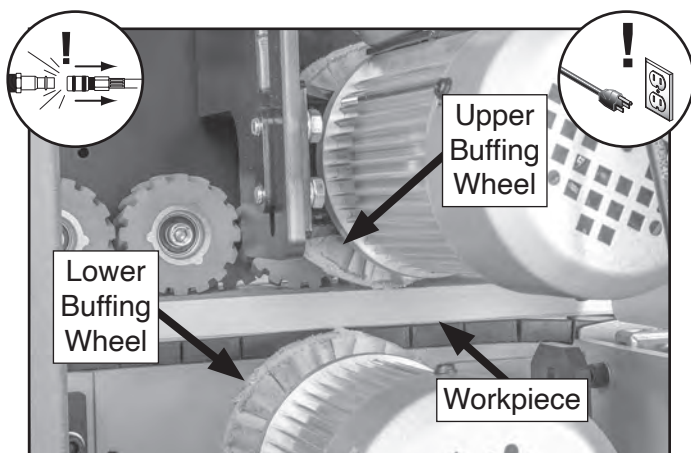

Figure 126. Workpiece between buffing wheels.
3. Place test workpiece between upper and lower buffing wheels, as shown in **Figure 126**, then adjust panel feeder height according to test workpiece being used.